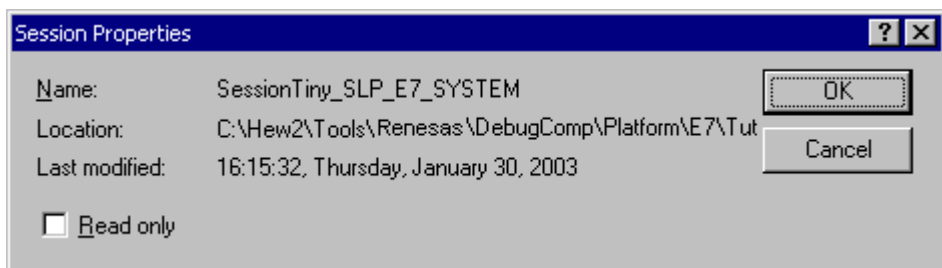

Figure 4.19 [Session Properties] Dialog Box
3. Click the [Properties] button to display the [Session Properties] dialog box (figure 4.19).